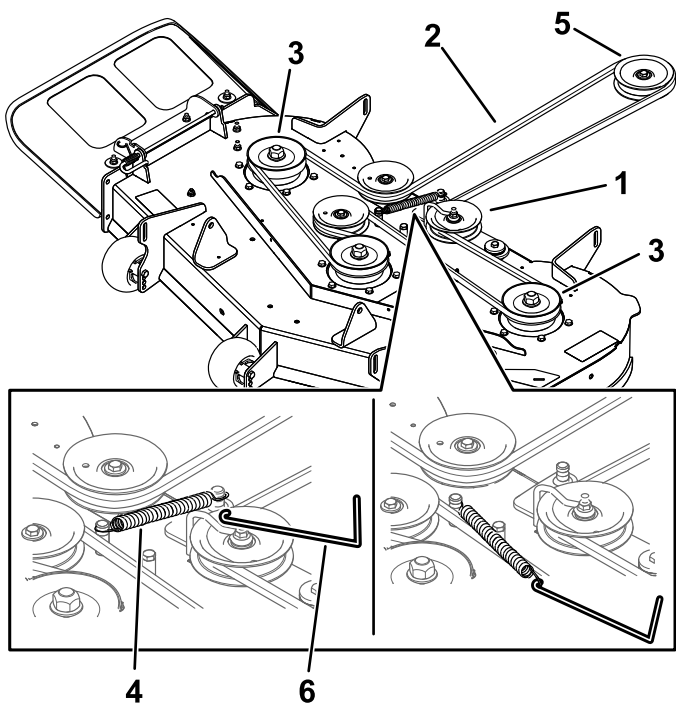

Figure 54
- Using a spring-removal tool (Toro Part No. 92-5771), remove the idler spring from the deck hook to remove tension on the idler pulley and roll the belt off the pulleys (Figure 54).
- Route the new belt around the engine pulley and mower pulleys (Figure 54).
- Using a spring-removal tool (Toro Part No. 92-5771), install the idler spring over the deck hook and place tension on the idler pulley and the mower belt (Figure 54).